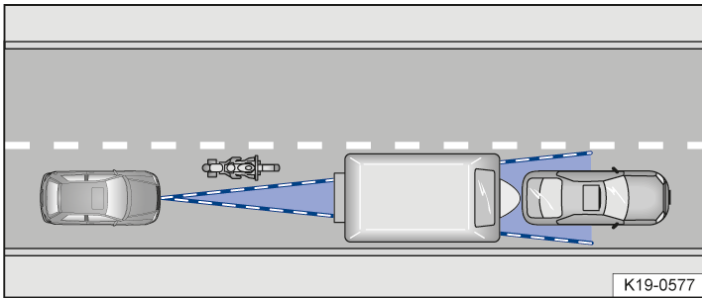

Fig. 3 Narrow vehicle.
- Vehicles that are driving outside the sensor range in close proximity to your vehicle, e.g. motorbikes → Fig. 3.